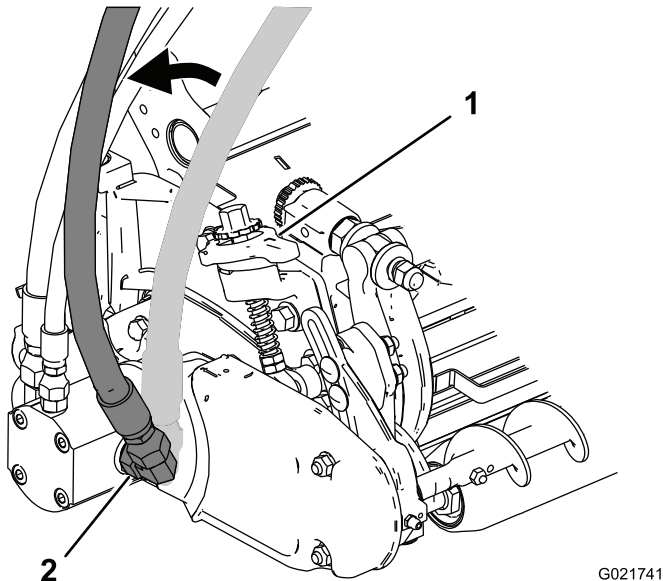

Figure 17
1. Loosen the nut on the fitting that connects the rear hydraulic hose to the reel drive motor (Figure 17).
2. Rotate the hose away from the machine until it no longer obstructs the movement of the quick-up lever (Figure 17).